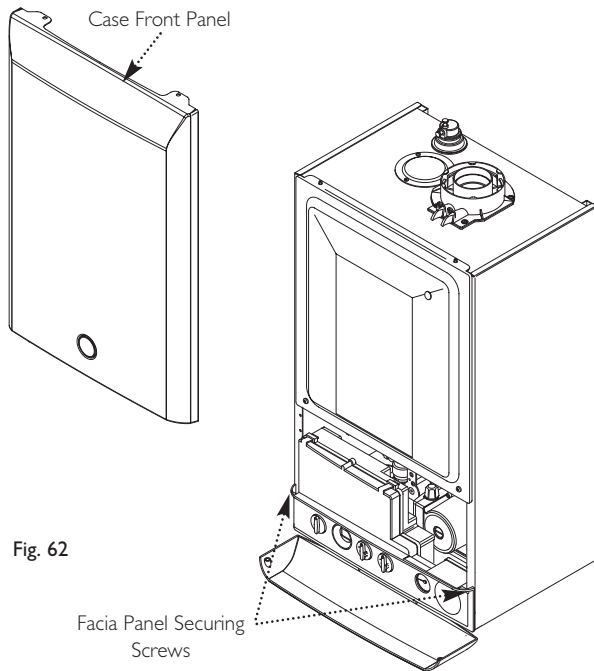

Fig. 62
5. Slacken the screws securing the fascia panel. Lift the outer case panel so that its securing tabs are clear of the fascia. Remove the panel, allowing the fascia to hinge down (Fig. 62).